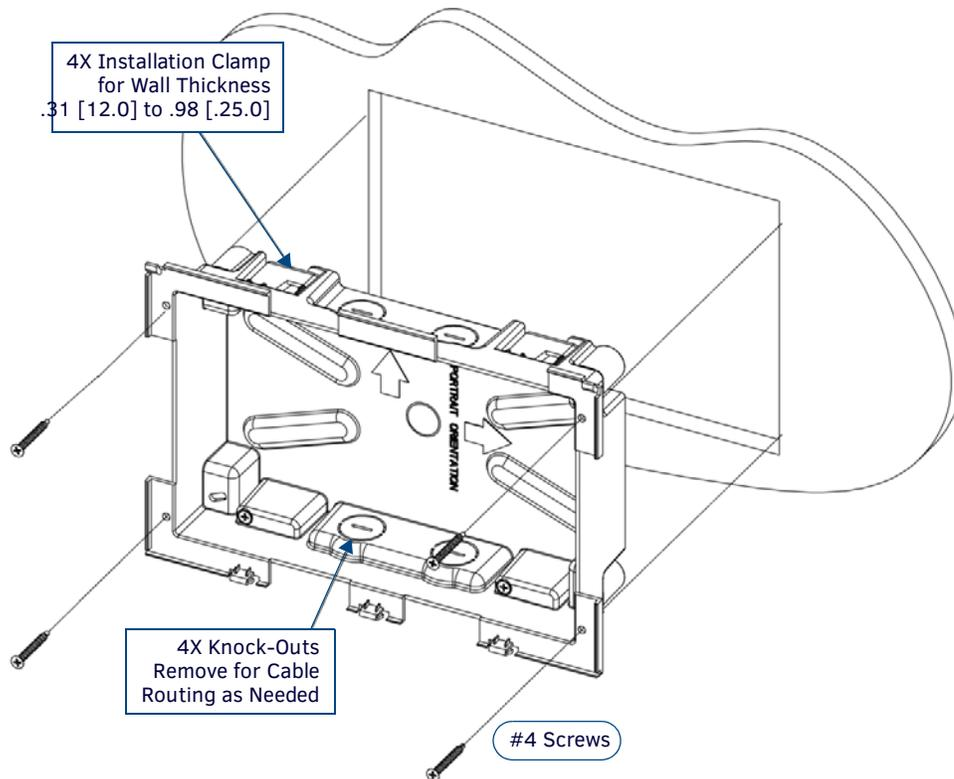
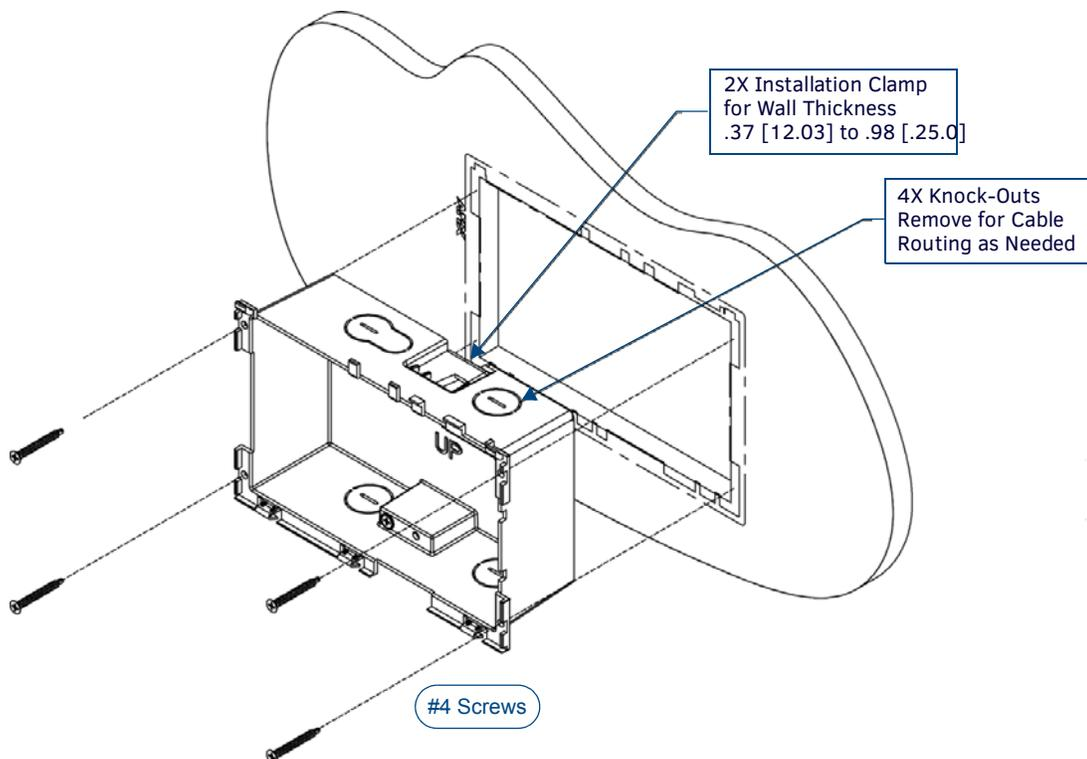

FIG. 44 MXD-1000 Backbox Installation (Landscape)
FIG. 45 MXD-700 Backbox Installation (Landscape)
3. Thread the incoming Ethernet and USB cables through the surface opening (FIG. 44 and FIG. 45). Note that these figures show a landscape panel but the installation of a portrait panel is essentially the same, other than the vertical orientation.
FIG. 44 shows the MXD-1000 Backbox installation:
FIG. 45 shows the MXD-700 Backbox installation:
- For additional strength, #4 mounting screws (not included) may be secured through circular holes located at the left and right sides of the panel (FIG. 44, FIG. 45). In order to prevent damage to the touch panel, make sure that these are flush with the Backbox.